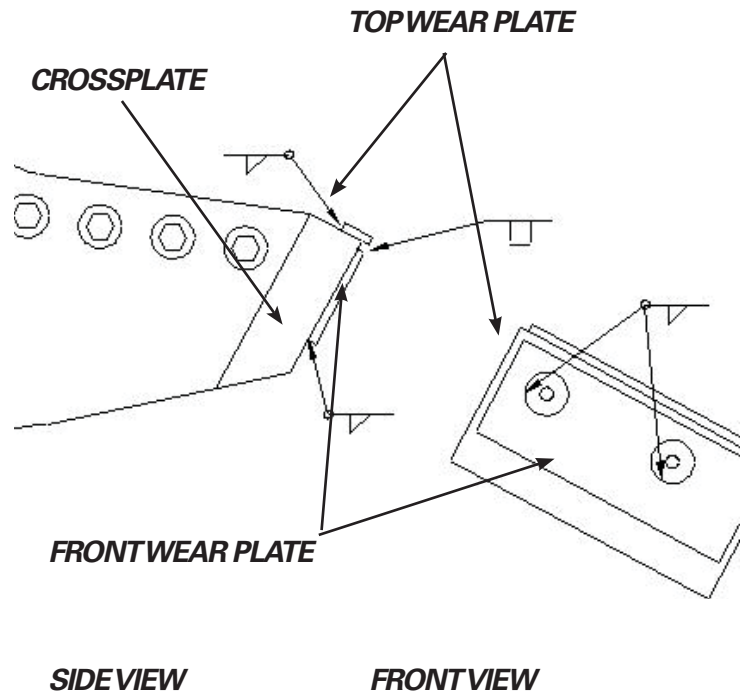

FIGURE 5-35
4. Position the new front wear plate so it is centered across the width of the cross plate. The holes in the wear plate should be aligned with the holes in the nose plate. This should leave a gap between the top of the wear plate and the top of the nose plate that will be filled with weld later (see **Figure 5-35**). Clamp the wear plate into position, bring the pre-heat back up to 400°F (200°C). Tack weld in place.